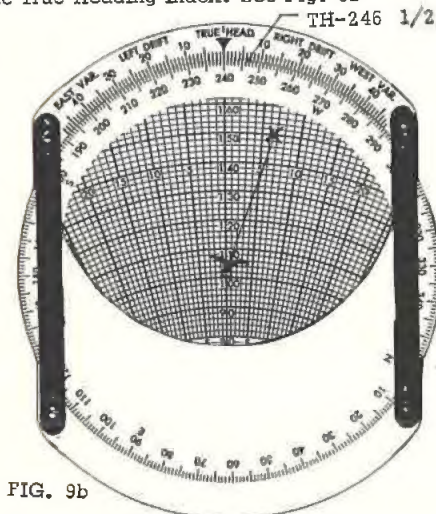

FIG. 9b
4. Place the True Course (240 deg.) opposite the True Heading Index. See Fig. 9b